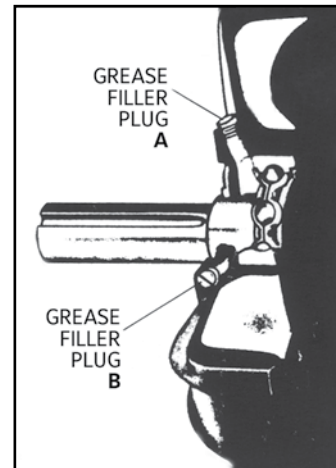

Figure 52 - Grease Fittings
- Motor Lubrication Procedure (Figure 52)